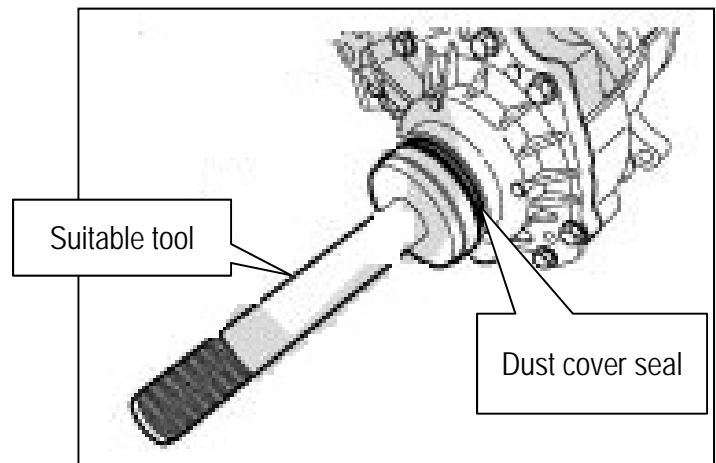
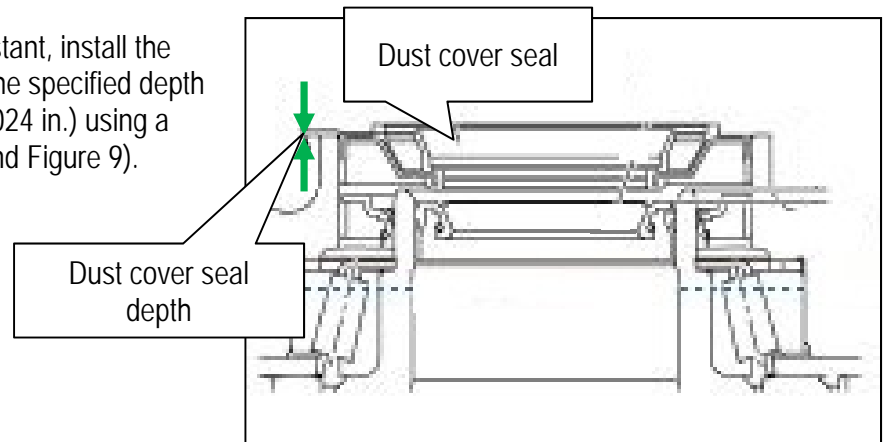

Figure 8
Figure 9
- a. With the help of an assistant, install the new dust cover seal to the specified depth of 0.0-0.6 mm (0.000-0.024 in.) using a suitable tool (Figure 8 and Figure 9).